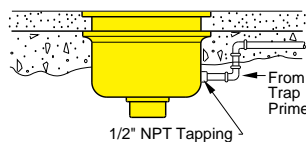
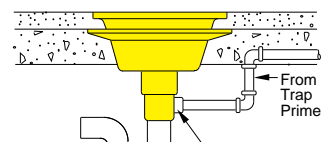

Fig. 6
Fig. 7
- 3) **TRAP PRIMER CONNECTION:** To indicate a trap primer connection on a Smith stainless steel SANI-CEPTOR body, add Suffix -P to the figure number selected. Connection is located on vertical C/L 2" above bottom of drain (Fig. 6). These connections are not recommended for A.R.C. SANI-CEPTORS because the exposed pipe threads rust causing an objectionable discoloration on the A.R.C. wall. When a trap primer connection is needed for A.R.C. applications, Smith recommends the use of Auxiliary Inlet Fitting Fig. 2697 (Fig. 7).